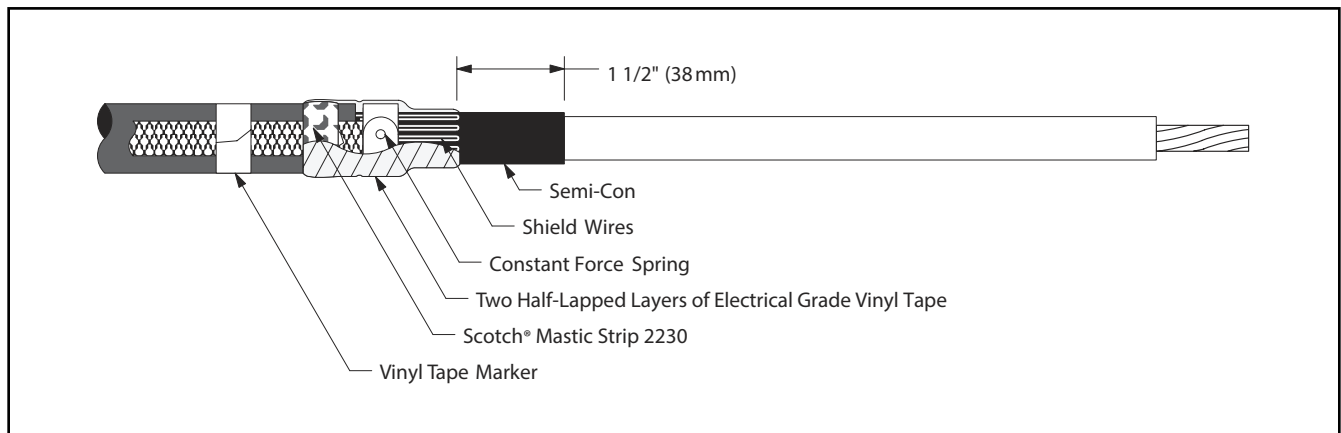

Figure 13
- 7.5 Wrap two highly stretched half-lapped layers of electrical grade vinyl tape around mastic seal, constant force spring and exposed shield wires (*Figure 13*).